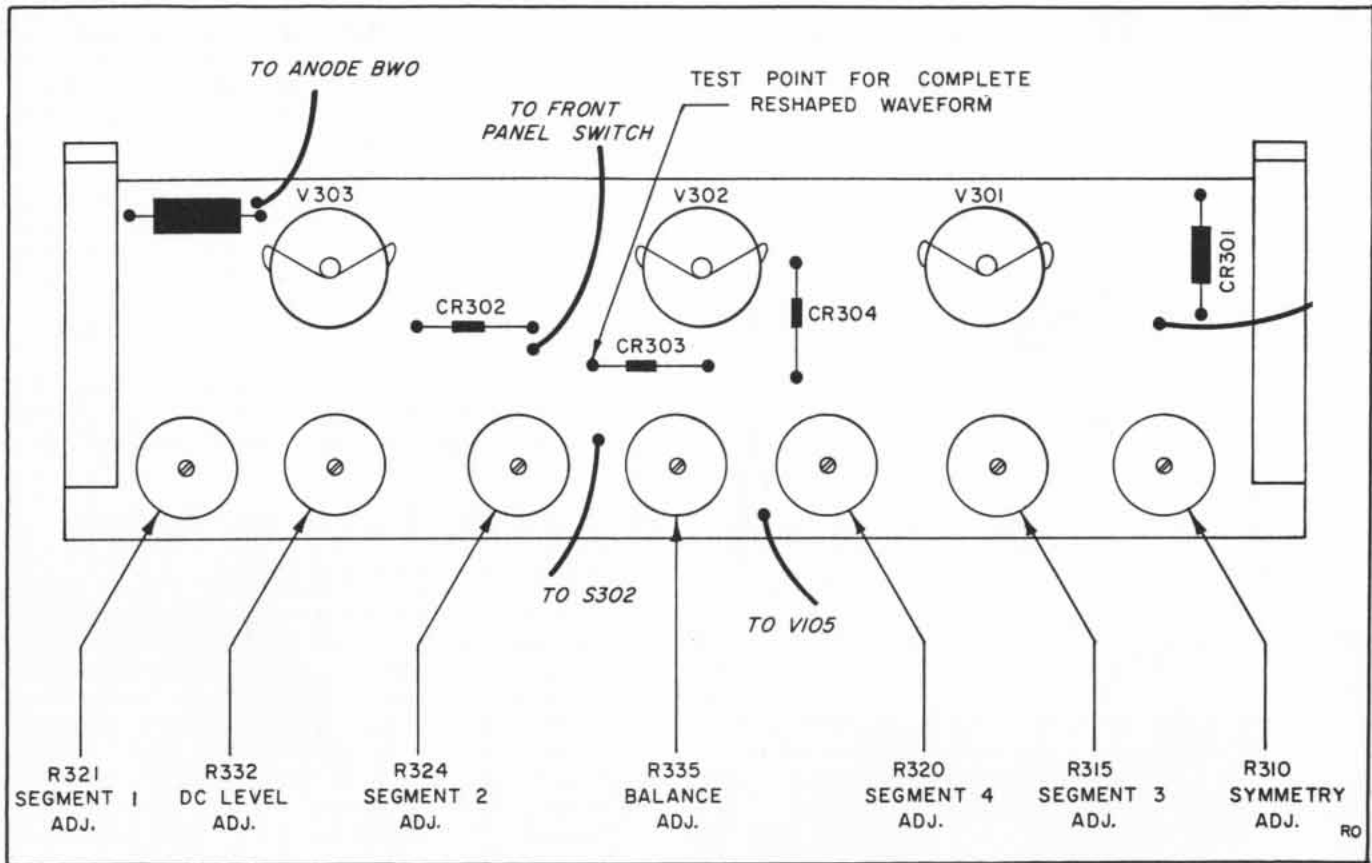

Figure 4-13. RF Leveler Circuit Board
c. With Balance Adj. R335 mid-range, adjust DC Adj. R332 (figure 4-13) to cathode current and at frequency indicated on meter face.
- j. With the RF LEVELER in the OFF position, set Balance R335 (figure 4-13) so that the Power Level is greater than 10 mw at low power point.